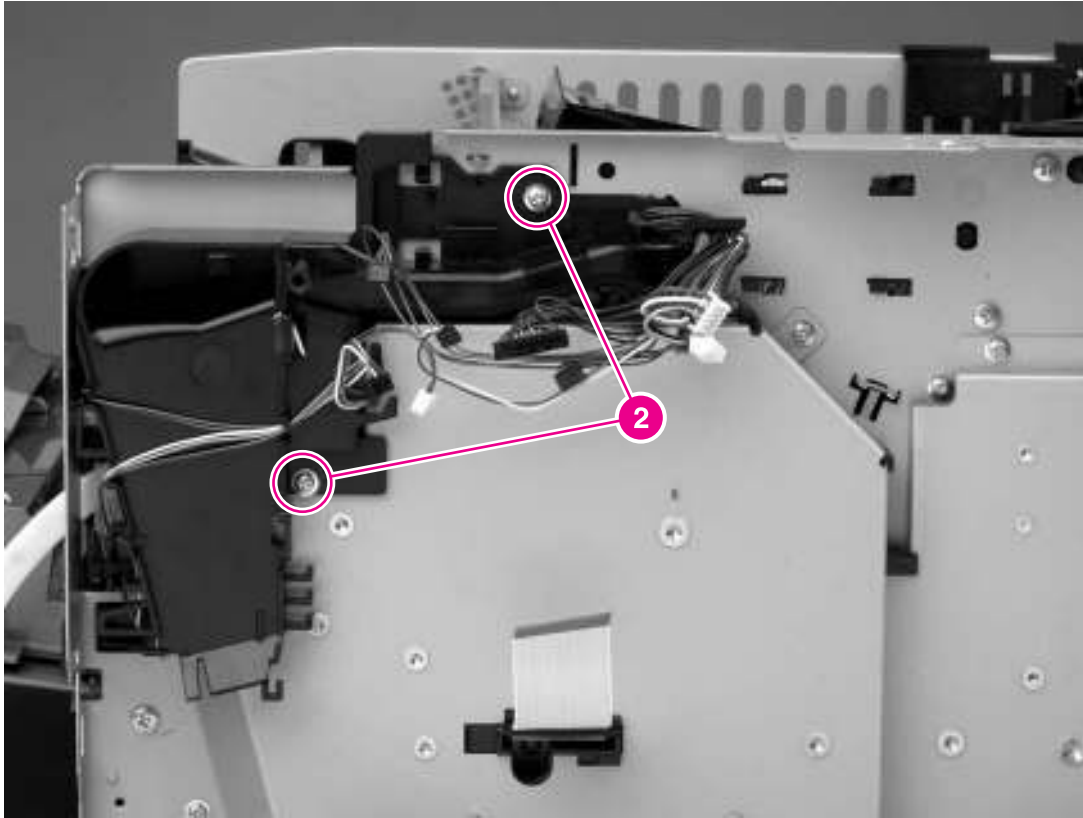

Figure 6-42 Removing the gear assembly (2 of 6)
7. Remove the air duct (see Figure 6-42 Removing the gear assembly \(2 of 6\) on page 116).